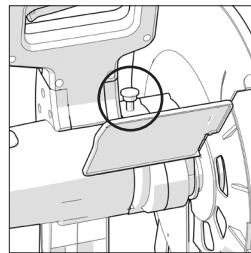

Fig. 3
- Engage the arbor lock by pressing the arbor lock button. (Fig. 3)